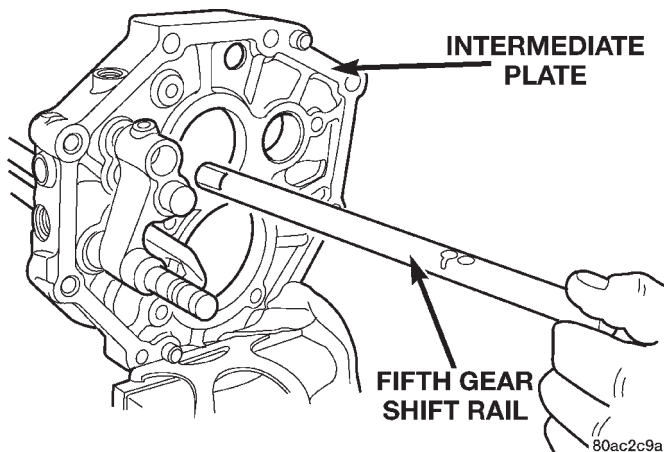

Fig. 67 Remove Fifth Gear Shift Rail
(23) Remove fifth gear shift rail (Fig. 67).